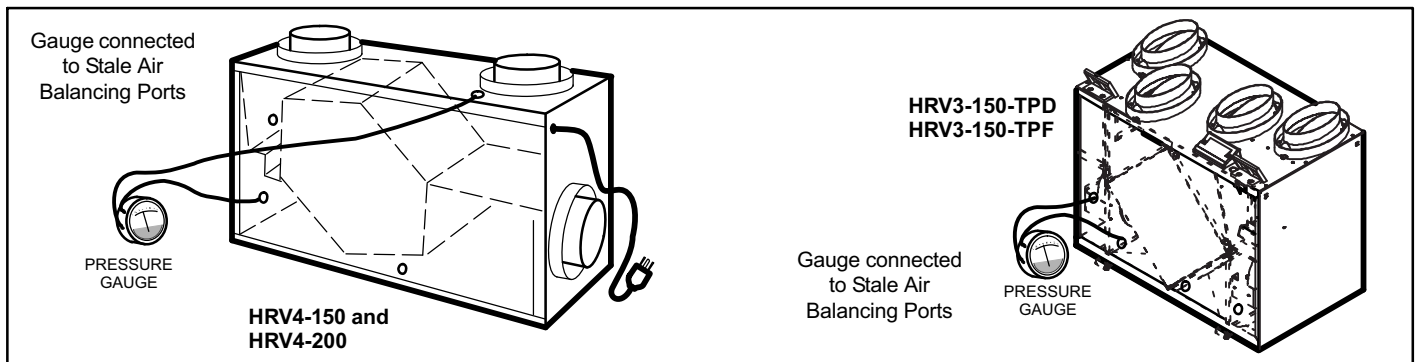

Figure 32. Door Balancing Ports—Stale Air
5. **Measure Stale air**—Insert the 2 rubber fittings from the gauge to the STALE AIR Balancing Ports (see figure 32). Seal the FRESH AIR Balancing Ports (upper left and lower right) with tape. Record your reading.